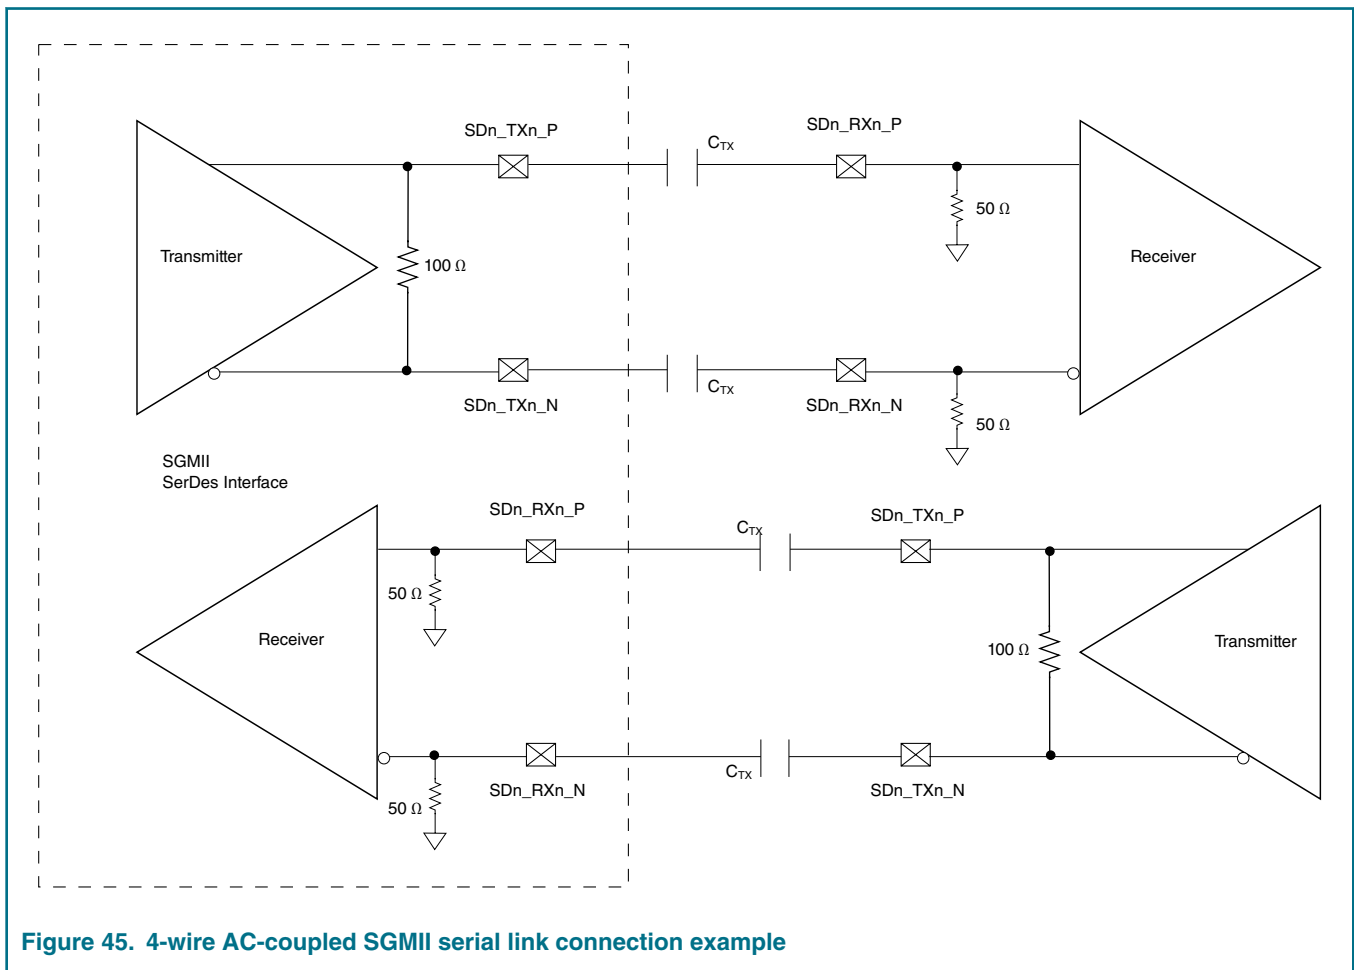

Figure 45. 4-wire AC-coupled SGMII serial link connection example
Each SGMII port features a 4-wire AC-coupled serial link from the SerDes interface of the chip, as shown in Figure 45, on page 140, where C_{TX} is the external (on board) AC-coupled capacitor. Each SerDes transmitter differential pair features 100-Ω output impedance. Each input of the SerDes receiver differential pair features 50-Ω on-die termination to XGND n . The reference circuit of the SerDes transmitter and receiver is shown in Figure 42, on page 122.
12. See Figure 45. on page 140.